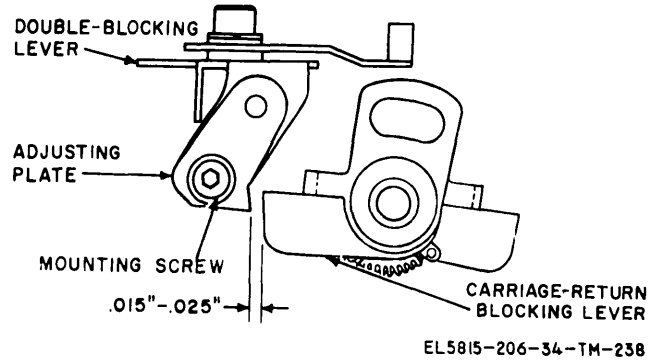

Figure 3-166. Carriage-return adjusting-plate adjustment (TT-4B/TG, TT-4C/TG, TT-335/TG, TT-537/G, TT-698A/TG, and TT-698B/TG).
(fig. 3-166)
b. *Method of Checking.* Turn the motor on and press the CAR RET keylever, causing the carriage to move to the left-hand margin. Turn the motor off and trip the transfer-lever latch. Hold the carriage-return blocking lever (fig. 3-166) downward and turn the motor slowly by hand until the carriage-return clutch members move against each other (tooth